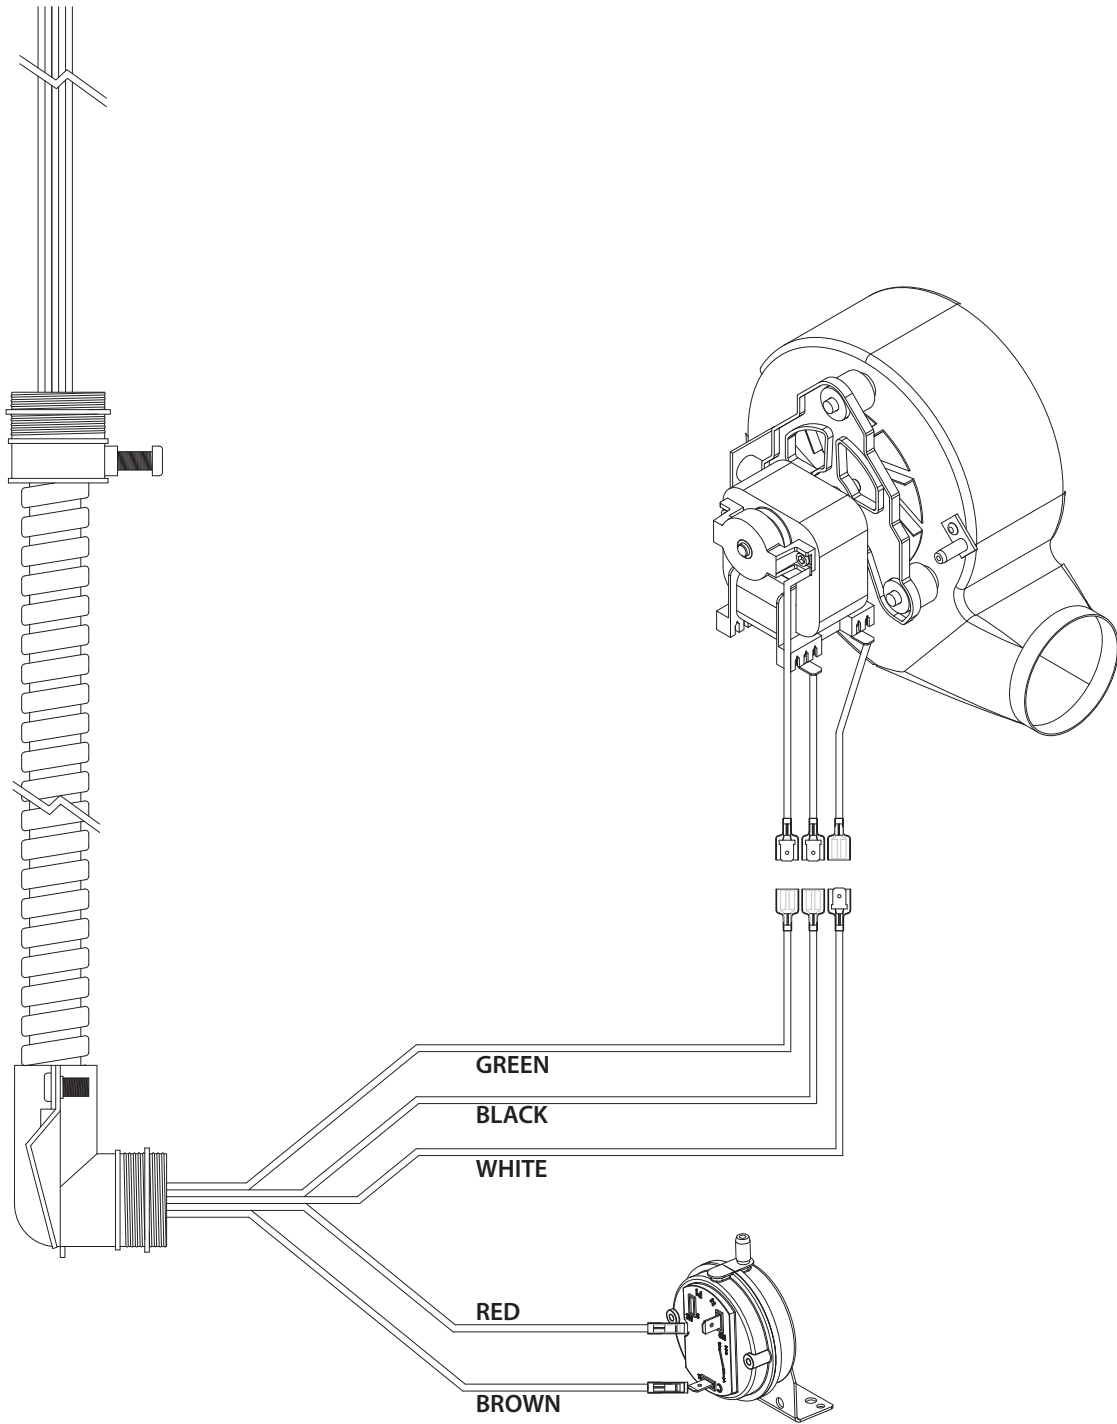

Figure 3.13, Power Vent Internal Wiring
4. Install #KPV wiring harness through the electrical access hole in the back cover cap. See Figure 3.10 and Figure 3.13.
See Figure 3.13, Power Vent Internal Wiring on page 14 for wiring schematic accompanying these instructions.